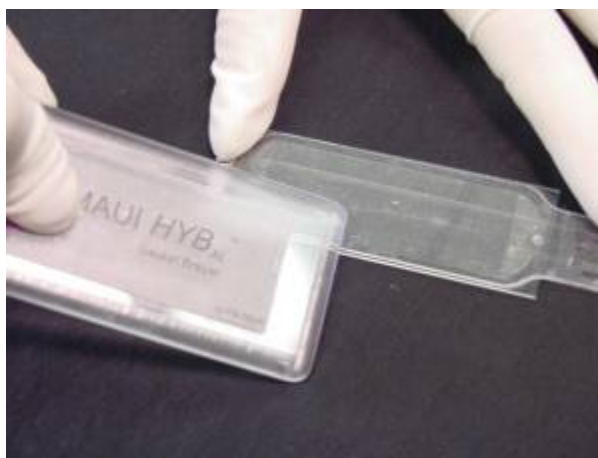

Figure 21: Adhesive Gasket Braying
7. Using moderate pressure, rub the gasket brayer over the top of the MAUI Mixer to ensure good contact between all portions of the adhesive gasket and the glass slide, paying close attention to the ends of the Mixer. (Fig. 21)